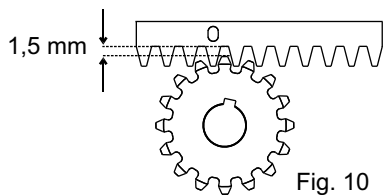

Fig. 10
5.6. To avoid that the door weights down on the pinion (Fig. 10) lift up the whole rack about 1,5 mm.